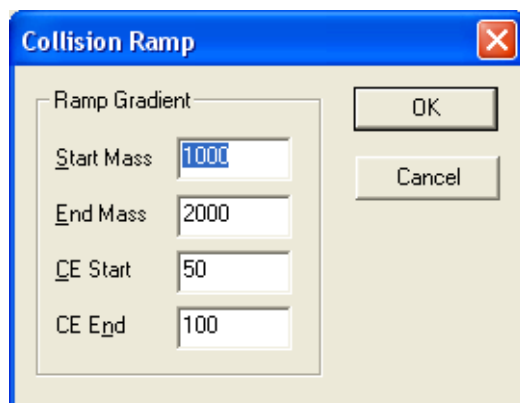

Figure C-6 Collision Ramp Dialog Box
1. Select Ramps > Collision Energy Ramp Gradient to open the Collision Ramp dialog box (Figure C-6).